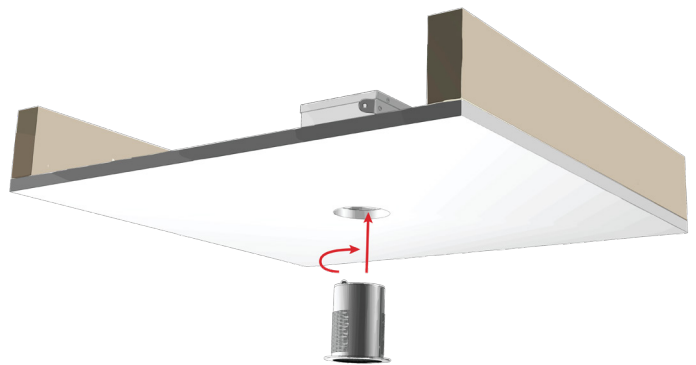

Figure 7.
7. Attach the wiring and install the emitter in the conduit mount through the drywall as shown in Figure 7.